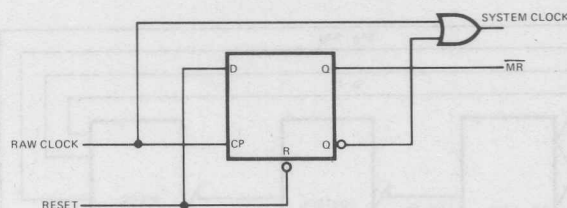

Fig. 3. Initialization Circuit
Initialization of the non-pipeline systems is rather straightforward. Whenever the 4708B \overline{MR} input is LOW, the program counter (PC) is cleared and hence all the Address outputs of the 4708B will be LOW. This address then defines the starting location for the microprogram execution. The PC is held clear as long as the \overline{MR} input is LOW. A simple initialization scheme is shown in Figure 3. The flip-flop is held clear by a low-level Reset input. The Q output of this flip-flop is connected to the \overline{MR} input of the 4708B. As long as the reset signal is LOW, the Raw Clock signal is blocked by the OR gate, due to the HIGH level from the \overline{Q} output, thus the System Clock output will be HIGH. When the Reset input goes HIGH, the following LOW-to-HIGH transition of the Raw Clock sets the flip-flop. The OR gate passes the Raw Clock input as the System Clock which then can be used to drive the data path and the CP input of the 4708B.